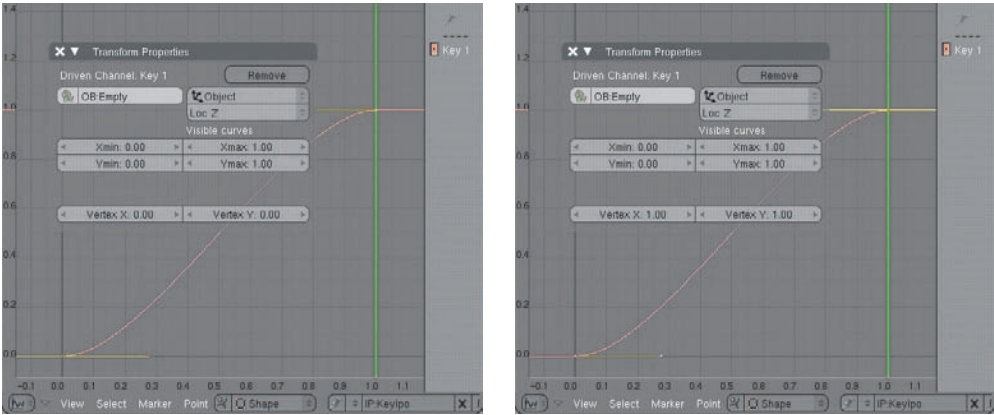

Figure 1.84 Ipo transform properties
6. Press the N key to bring up the Transform Properties dialog box in the Ipo Editor. Click Add Driver and type **Empty** in the OB field. In the drop-downs to the right of this field, select Object and LocZ. In Edit mode, select the control points on the curve one by one and make sure that they are set at Vertex X: 0, Vertex Y: 0, and at Vertex X: 1, Vertex Y: 1, as shown in Figure 1.84.